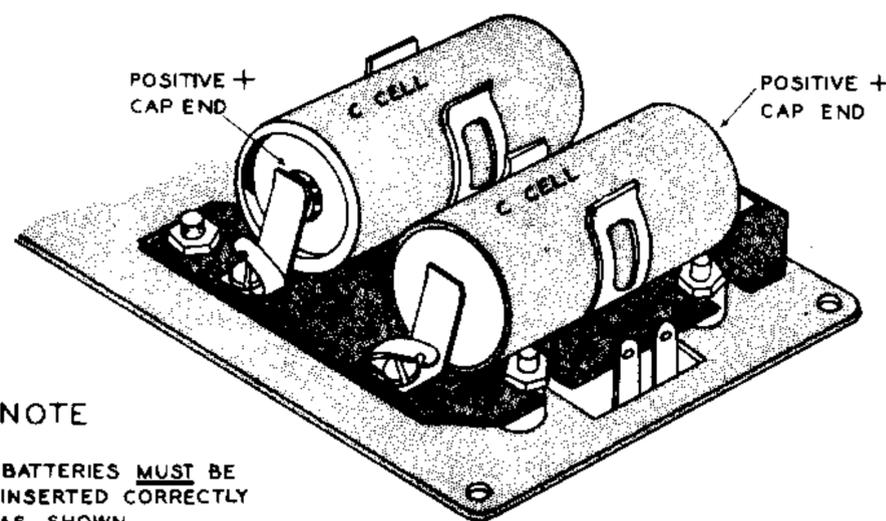

Figure 9
- ( ) Refer to Figure 9 and, noting the position of the battery caps, install the two size "C" batteries by pulling out slightly on the one spring contactor and pushing the battery against the other. Apply only sufficient pressure to allow the battery to slip into place. NOTE: If the contactors are sprung too far out to make contact with the battery, or if the batteries are installed without proper regard to polarity, your Code Oscillator will not operate!